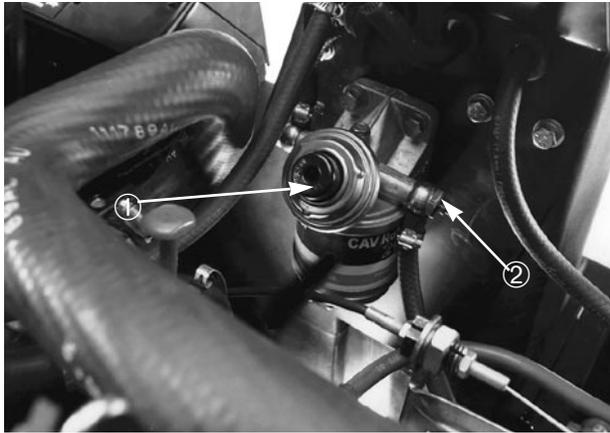

Figure 14
## PRIMING THE FUEL SYSTEM (Fig. 14 & 15)
3. Loosen the fuel filter/water separator bleed screw (Fig. 14) a few turns. Pump the priming plunger until a steady stream of fuel comes out of the hole in the bleed screw. When the fuel stops foaming, tighten the bleed screw during the downstroke of the priming plunger. Wipe up any spilled fuel.